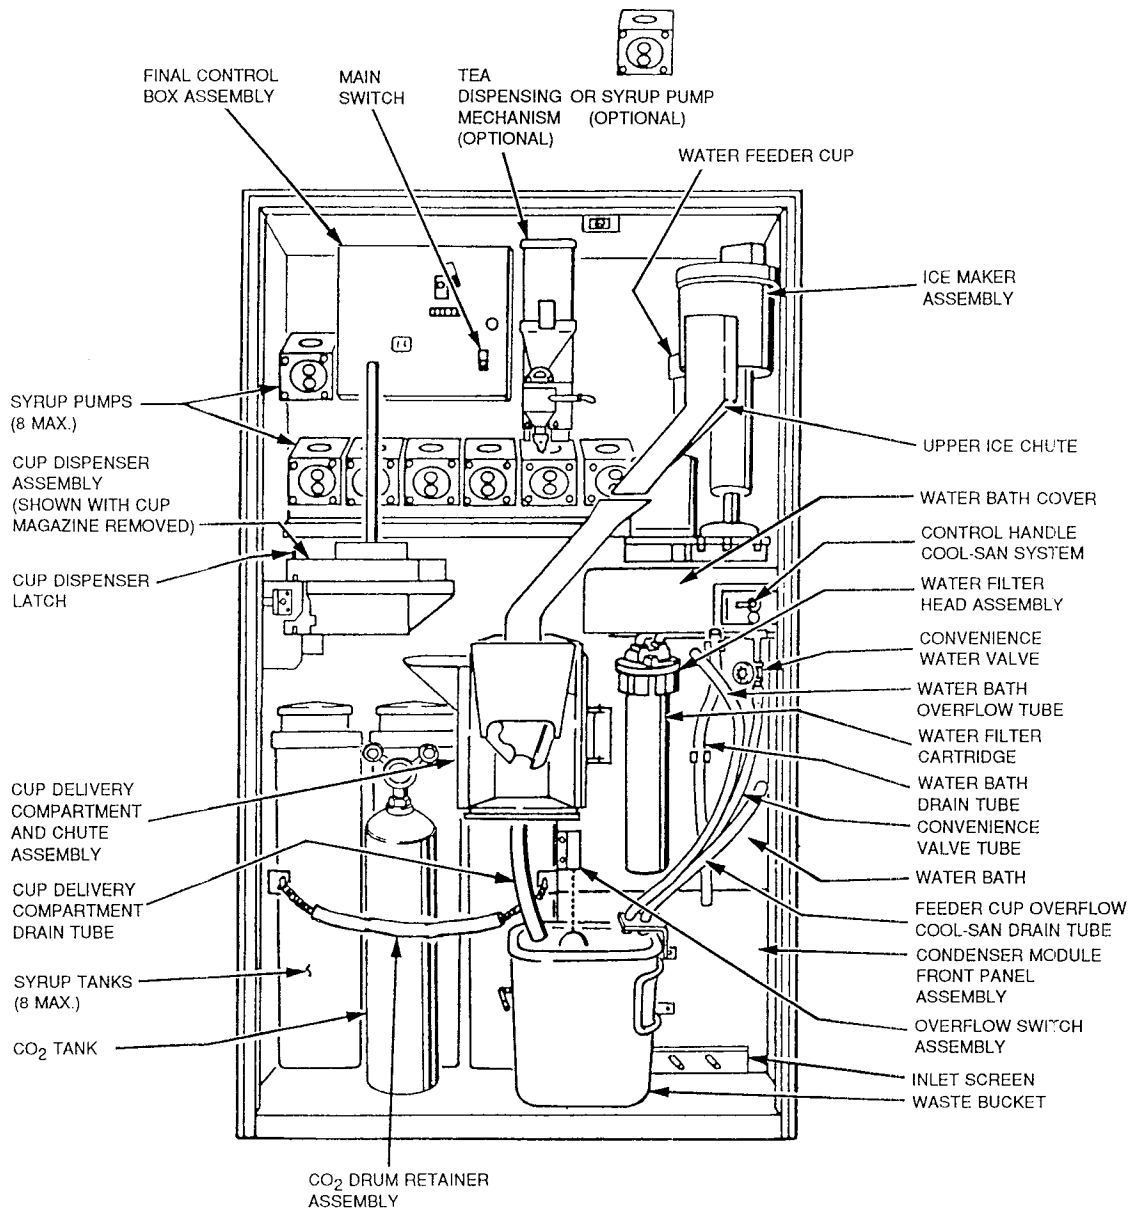

Figure 1. Component Locations
54. See figure 1: Replace the following parts: